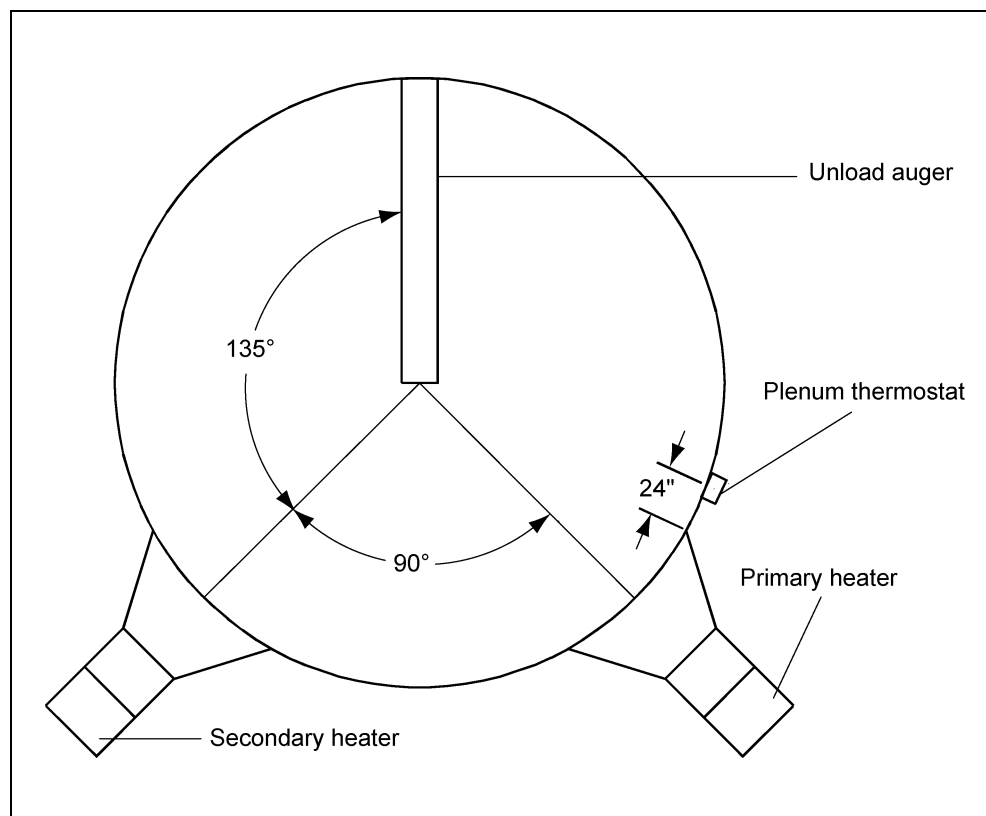

Figure 6A
IMPORTANT: When mounting two (2) heaters on a bin it is imperative that they be situated as in Figure 6A. Plenum thermostat must be to the right of primary heater and primary heater must be to the right of secondary heater.